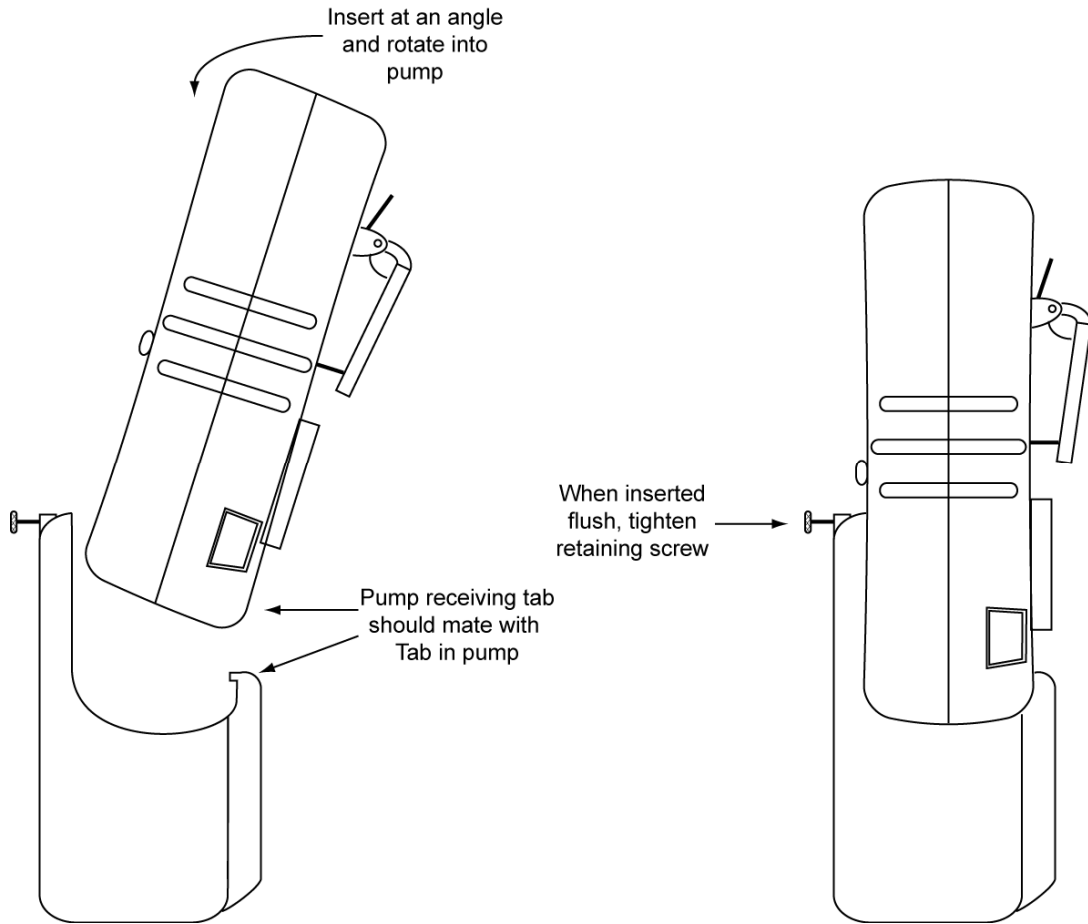

Figure 4-7. Pump Installation
- 1) Connect the pump by inserting, at an angle, the pump's back tab into the monitor's pump receiving tab. Rotate the pump forward until the pump sits flush with the monitor. Screw the pump retaining screw into the threaded hole located on the front of the monitor. Refer to Figure 4-7.